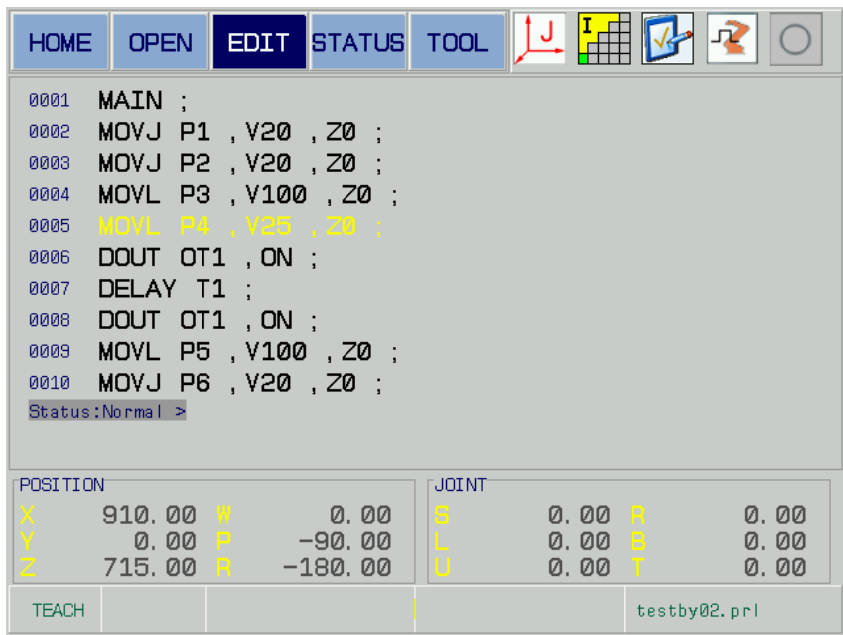

Fig. 5-34
3. Complete the command modification by [CANCEL] after the setting is performed, and back to the Normal mode; refer to the Fig. 5-34.